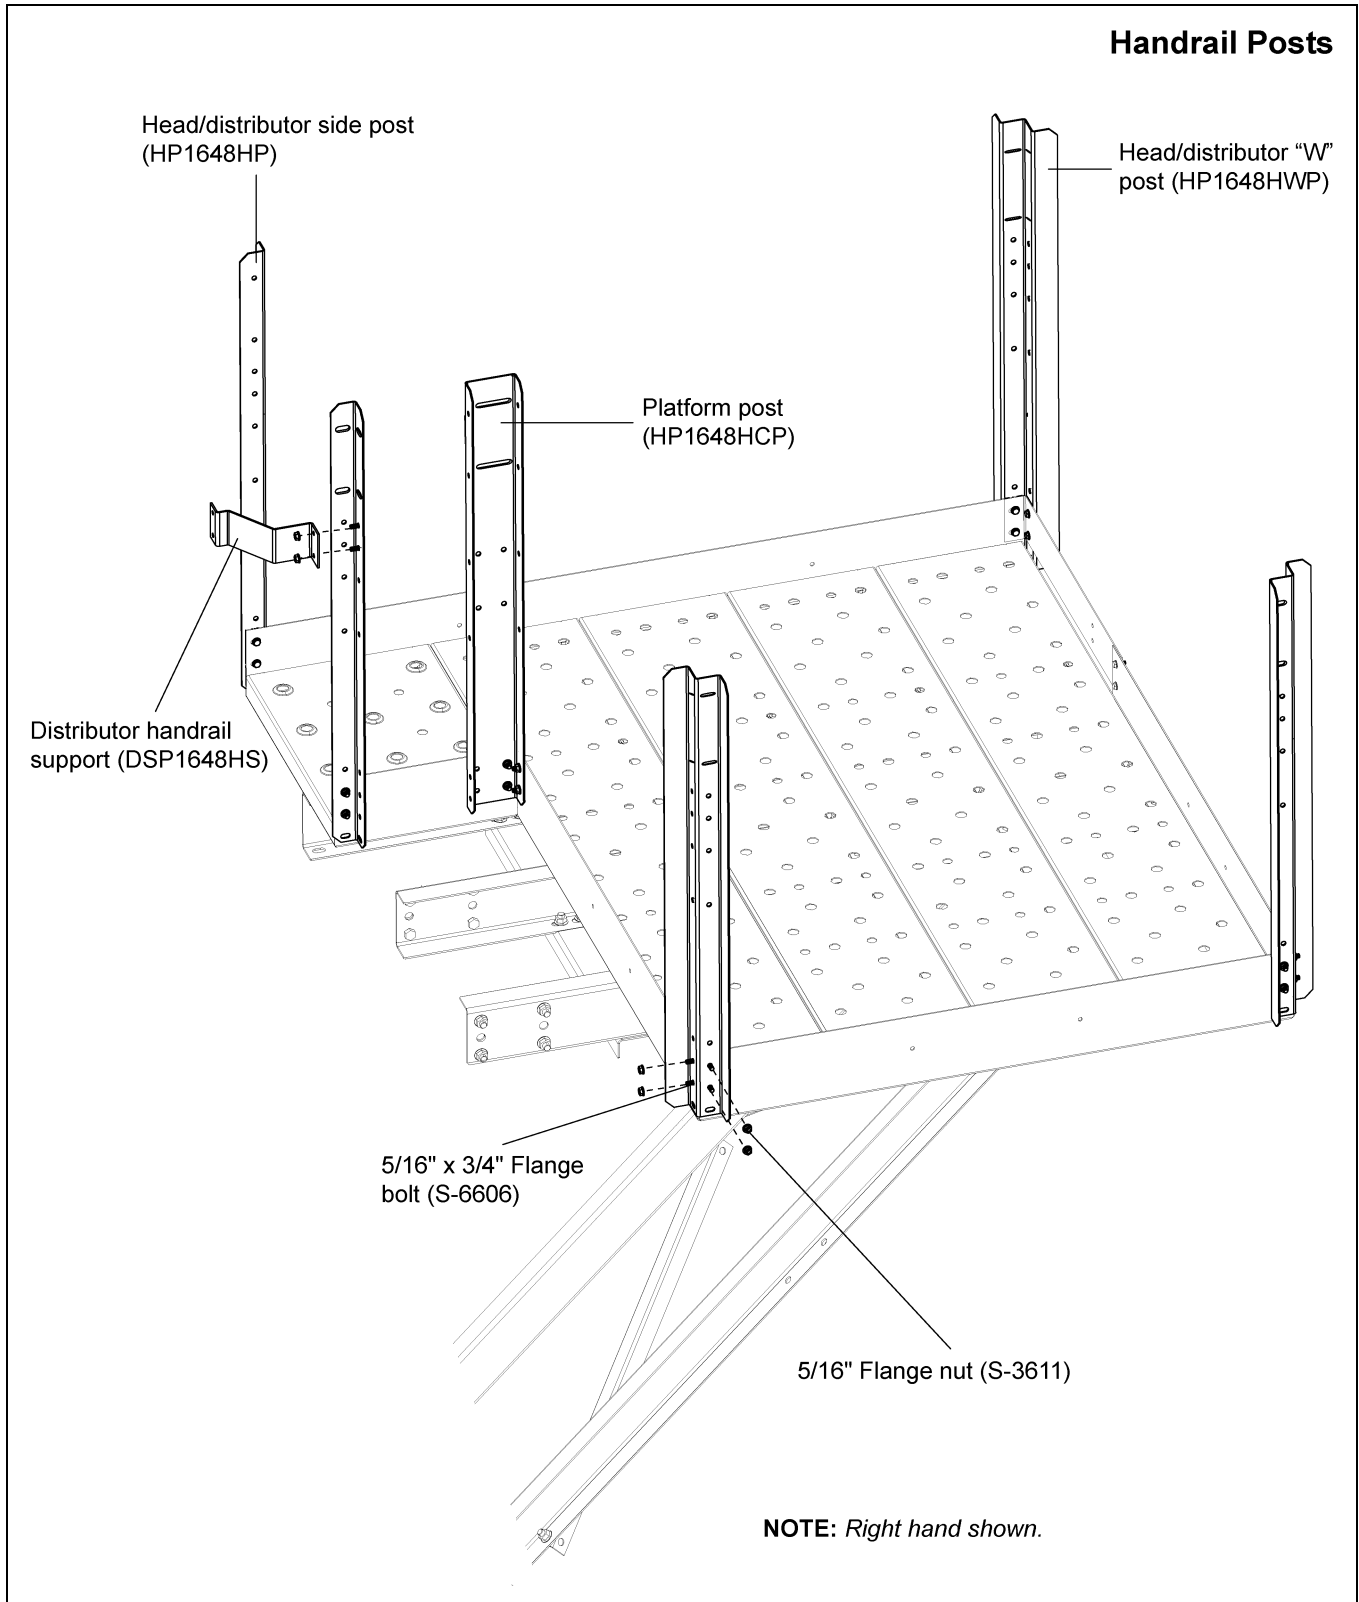

Figure 12H
4. Install distributor handrail support to the side post on the inside, located closest to the trunking through holes 3 and 4 counting from the top of the post. Use two (2) 5/16" x 3/4" flange bolts and nuts to fasten in place. (See Figure 12H.)